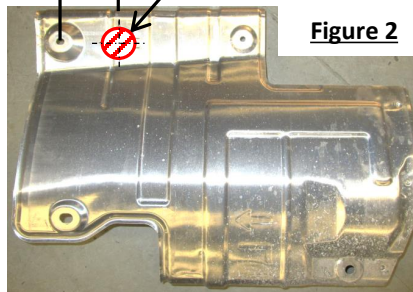

Figure 2
- Lower muffler** – Using an exhaust hanger removal tool, lower muffler by removing (2) rubber hangers from muffler and (1) rubber hanger near rear differential. NOTE: Use a spray lubricant to ease removal. Typical both sides for models with dual exhaust system. **NOTE: Use a ratchet strap or bungee cord to support exhaust system before removing rubber hangers.**
- Remove heat shield** – Using a 10mm socket, remove (4) bolts holding heat shield to vehicle. Save bolts to re-install heat shield. Typical both sides for models with dual exhaust system.
- Remove rubber plugs** - using a flat screw driver, remove (3) rubber plugs from the (3) forward holes in the bottom of the frame. Do not remove the rearmost rubber plug.
- Trim heat shield** – Using metal shears or hole saw, trim the heat shield to clear rear carriage bolt & washer attachment as shown. **See figure 2.**